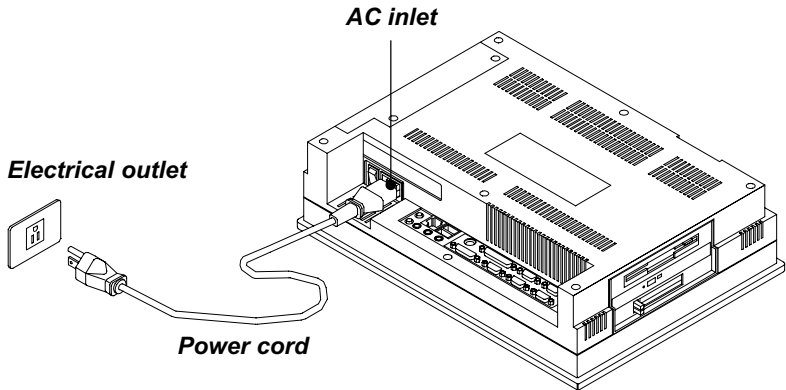

Figure 2-5: Connecting the power cord
1. Connect the female end of the power cord to the AC inlet of the panel PC. (See Fig. 2-5.)